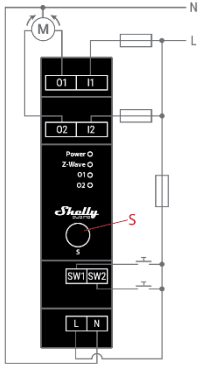

Fig. 1
**S:** S button (Fig. 1)
If the inputs are configured as push-buttons (Fig.1):